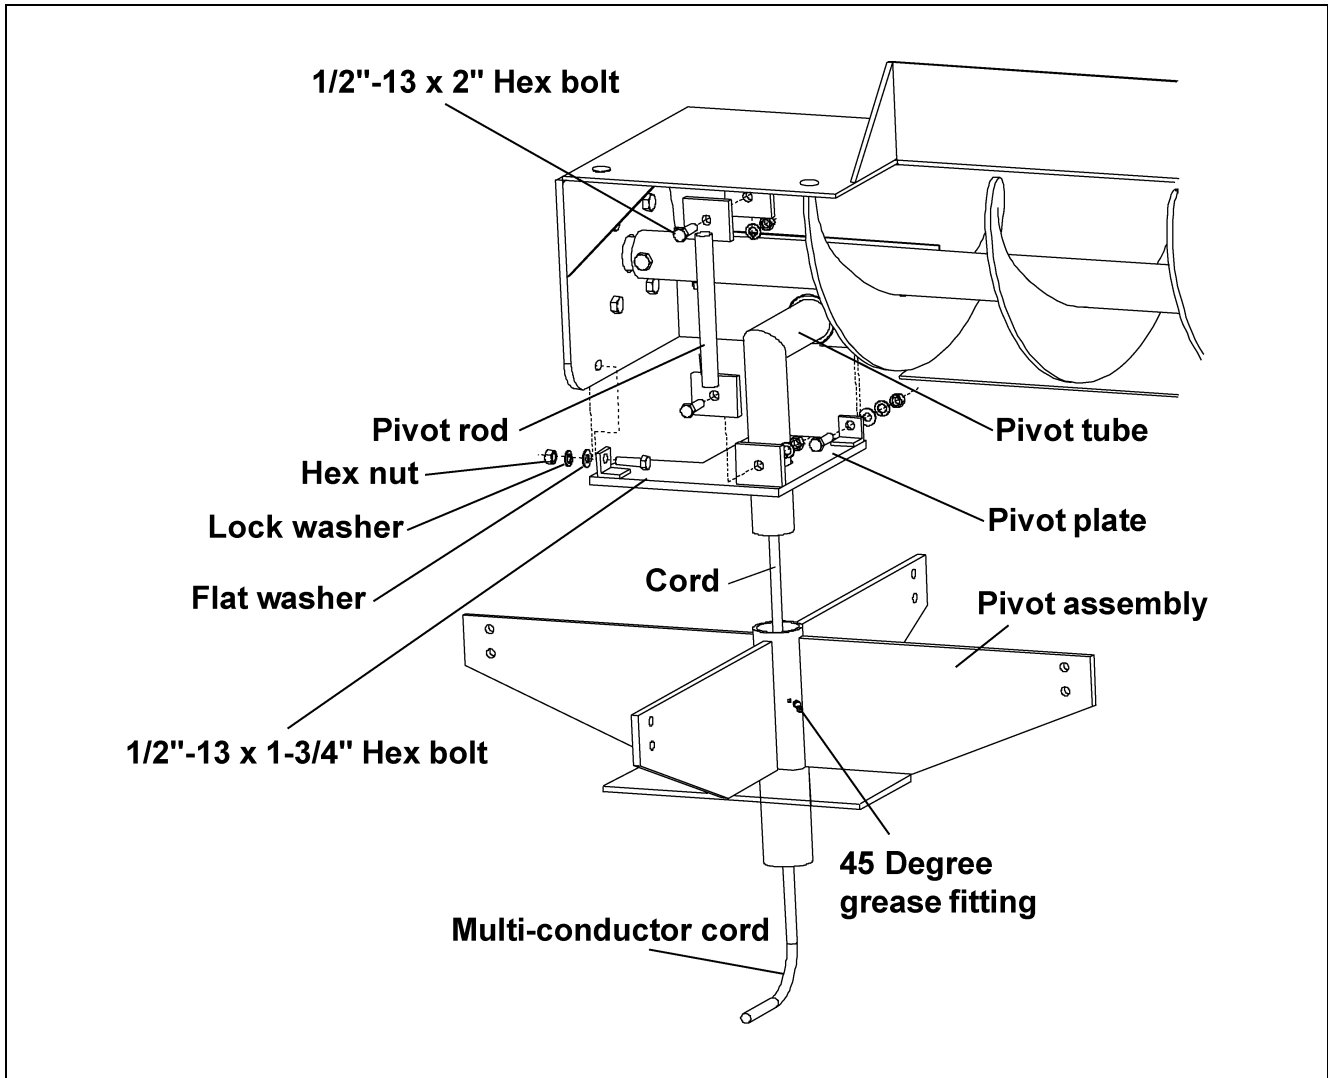

Figure 5AS
7. Screw the 45 degree grease fitting into the pivot assembly pipe. *(See Figure 5AS.)*
8. Connect the 1" x 48" liquid-tight flex conduit to the pivot tube using one (1) 1" conduit coupling and one (1) 1" liquid-tight flex conduit coupling. (See Figure 5AT.)